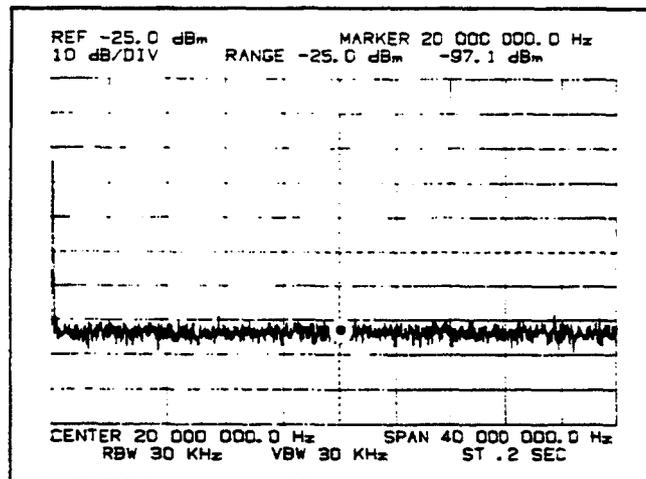

Figure 2-4. Turn-On Display.
- i. The CRT display should now appear as shown in Figure 2-4.